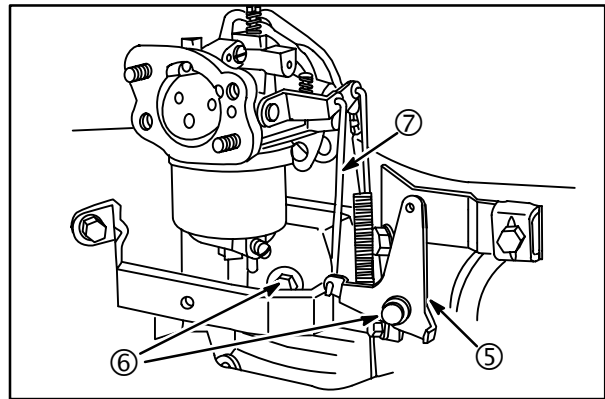
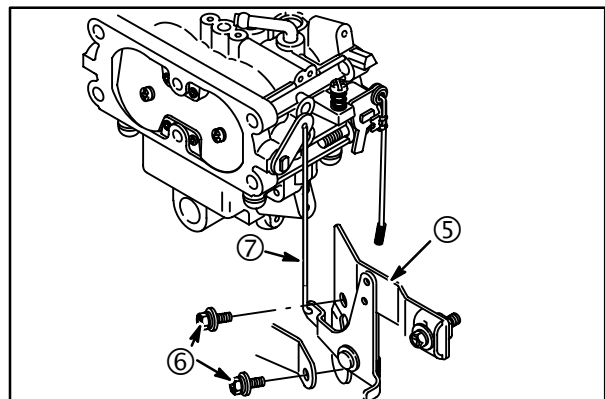

**Fig. 25**
**Fig. 26**
- Connect governor link (3) to throttle lever (1). Snap retainer (2) over link, **single barrel carburetor, Fig. 25**, **two barrel carburetor, Fig. 26**.
- Install governor link spring (4) in loop on retainer.